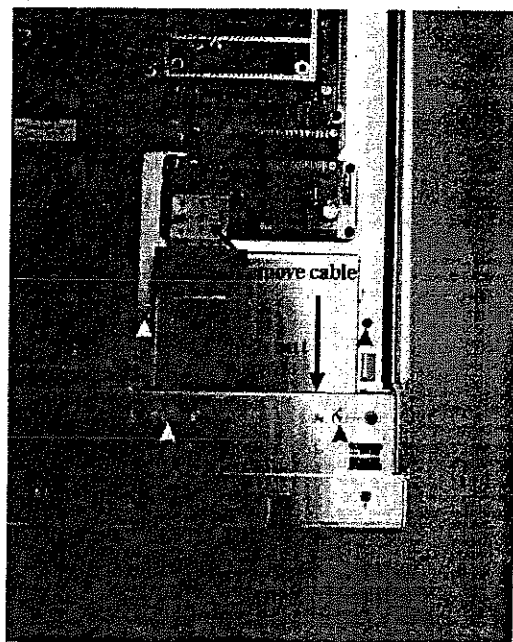

Figure 5-17 Location of Screws
2. Remove 4pcs screws, referring Figure 5-17.